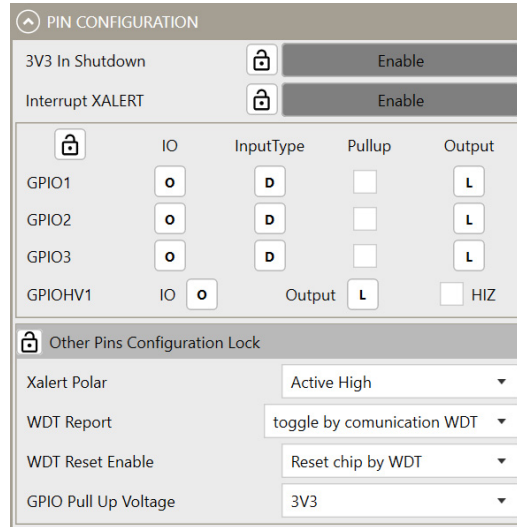

Figure 11: GPIOx Pin Configurations
13. Figure 11 shows how to configure the GPIOx pins (where x = 1, 2, or 3).